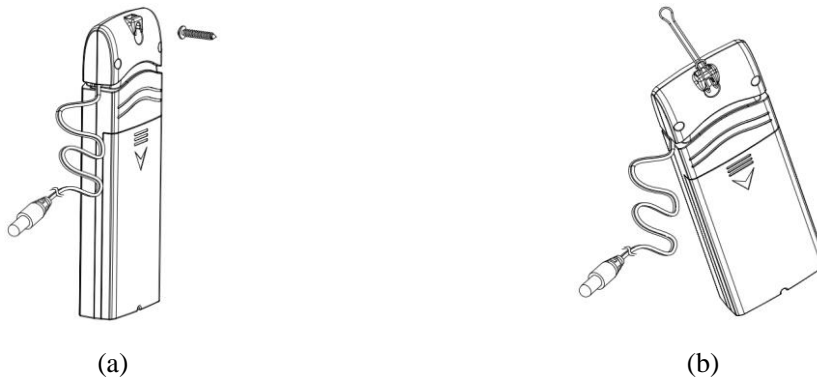

Figure 5
- Use a screw or nail to affix the remote sensor to the wall, as shown in Figure 5 (a) or
- Hang the sensor using a string or zip tie, as shown in Figure 5 (b).